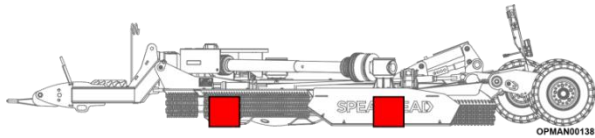

Figure 5.59
- 5.6.2.4 Fully support the centre and wing decks of the machine with fixed stands or substantial blocks; see Figure 5.59.